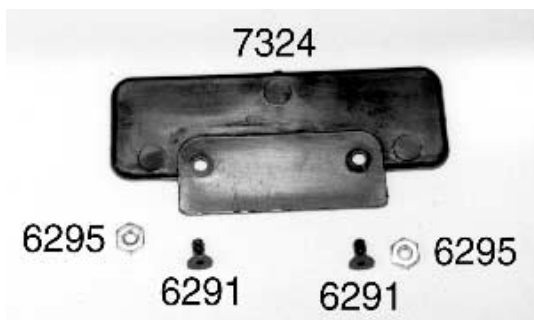

Fig. 41
□ **Figs. 41 & 42** You will find the #7324 front bumper in bag #7-4. Take two #6291 4-40 x 1/4" FHSScrews and two #6295 4-40 plain nuts from the same bag. The front bumper is recessed on one side so it will fit over the black aluminum nose plate. The front of the bumper has two countersunk holes where you will install the two #6291 flat head screws. Now thread on the two #6295 4-40 plain nuts on the back side of the nose plate and tighten them down.